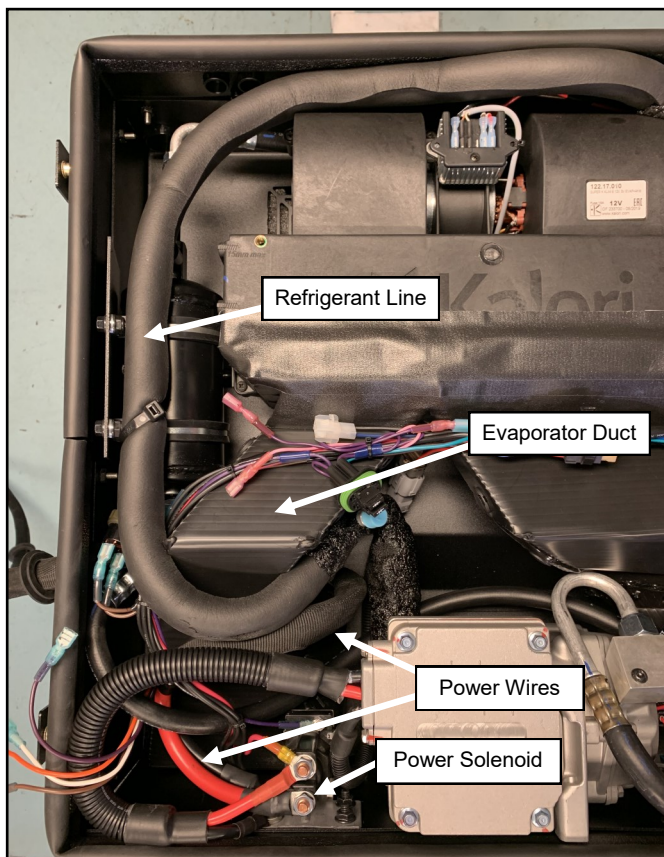

Fig. 2.4 (Route harness inside A/C Unit)
- 2.4 Per fig. 2.4, route the power harness under the evaporator duct and forward to the power solenoid. Snake it below the refrigerant line making sure nothing is protruding too high above the unit that will interfere with A/C Cap installation and install the first of the two grommets into the hole.